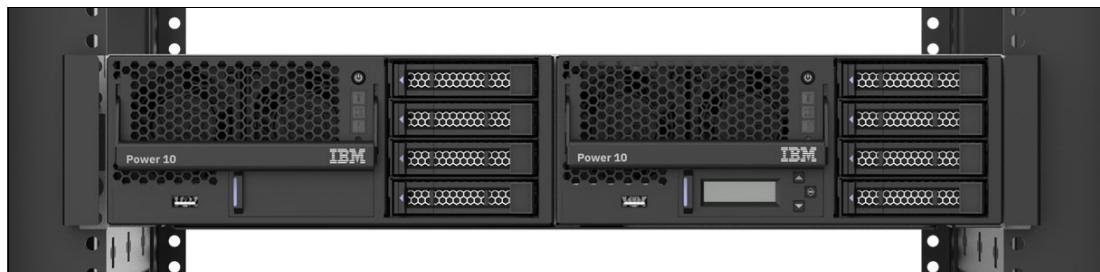

Figure 1-6 Two Power S1012 servers in a single 2u rack enclosure
As the Power S1012 is a half-rack width server there are three options for installing the servers in a rack. Figure 1-6 shows two S1012 servers mounted side by side in the rack.
2. Two S1012 servers installed side by side in the rack as shown in Figure 1-6.